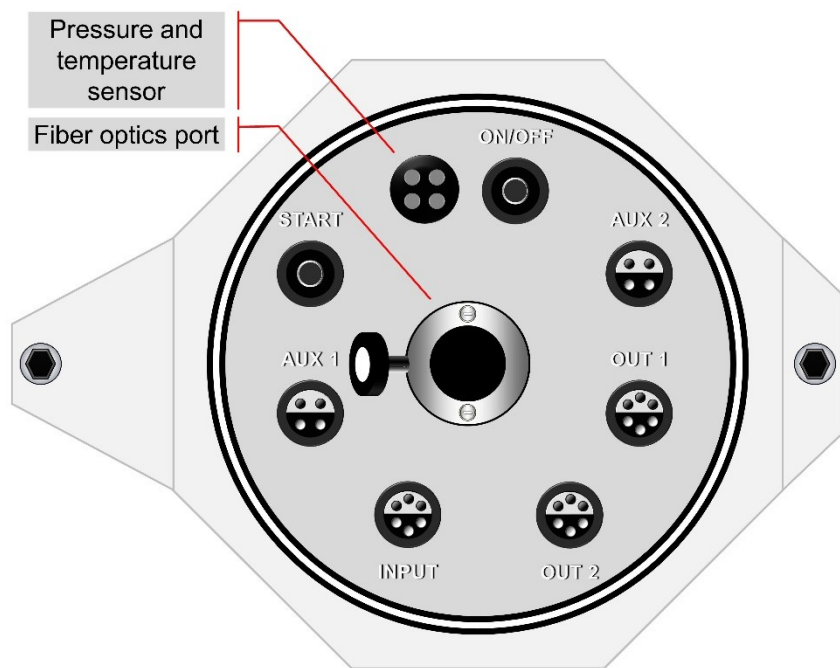
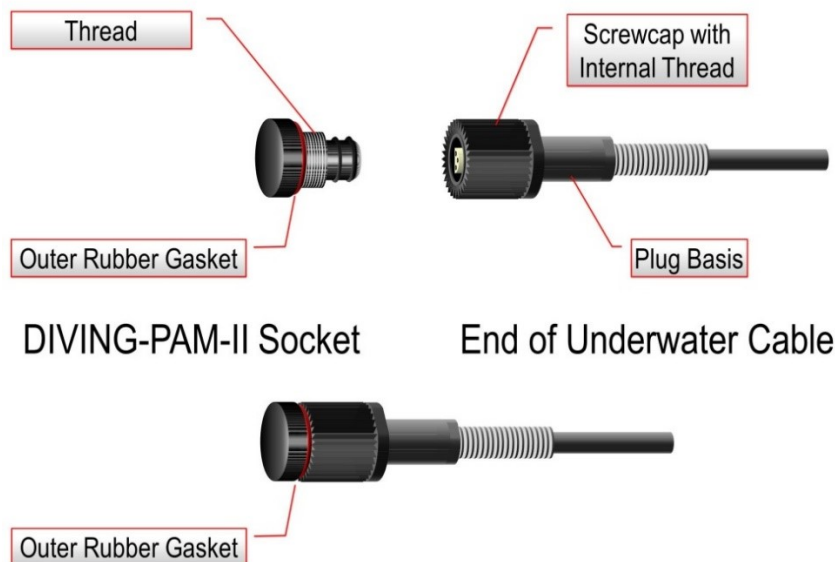

Fig. 3: Right End Plate of DIVING-PAM-II
Fig. 4: Watertight Connection of Cable
- Do not force a plug into the wrong socket (cf. Fig. 3, page 12). Make sure that the connection is watertight (Fig. 4, page 14).
- Do not attempt to open pressure and temperature sensor (Fig. 3, page 12).
- Before immersing the DIVING-PAM, make sure that all cable plugs are properly connected (the rippled cylinder of the cable end must be completely screwed in so that it presses against the rubber ring of the cable port: Fig. 4, page 14). Make sure that each unused cable port is properly sealed by a red rifled cap (screw in completely).
The Universal Sample Holder DIVING-II-USH includes a trigger cable which can be plugged into port OUT 1 or OUT 2 on the right end plate. When plugged in, the trigger button of the DIVING-II-USH has the same function of the START button on the right end plate of the fluorometer (Fig. 3).
Instructions on how to properly connect underwater cables are given by Fig. 4 (page 14). Note that the interface box is not submersible.
The waterproof fluorometer housing consists of a Plexiglas tube with Plexiglas end plates. The right end plate accommodates the fiberoptics port, various plug connectors, two push buttons (START and ON/OFF), and a combined pressure and temperature sensor (Fig. 3, page 12). All ports and buttons are explained in Table 1 (page 13).
The keys of the lower row from left to right correspond to the field elements on the right side of the screen from bottom to top. The function of the rightmost optical key of the lower row is identical to the START button on the right fluorometer end plate (Fig. 3, page 12) or the trigger button of the DIVING-II-USH (Fig. 17, page 28).